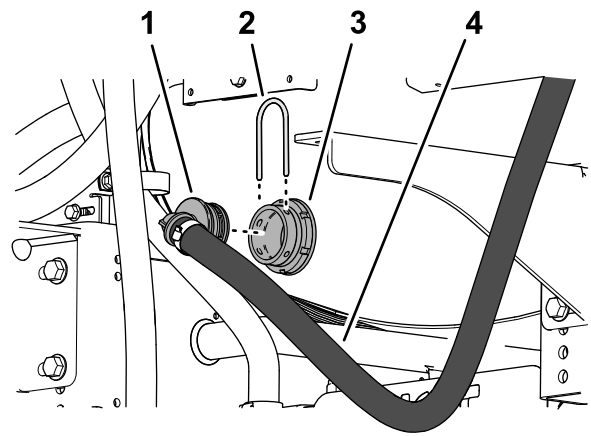

Figure 64
2. Remove the large retainer that secures the 90° barbed fitting at the lower end of the bypass hose to the bulkhead fitting of the sprayer tank (Figure 64).